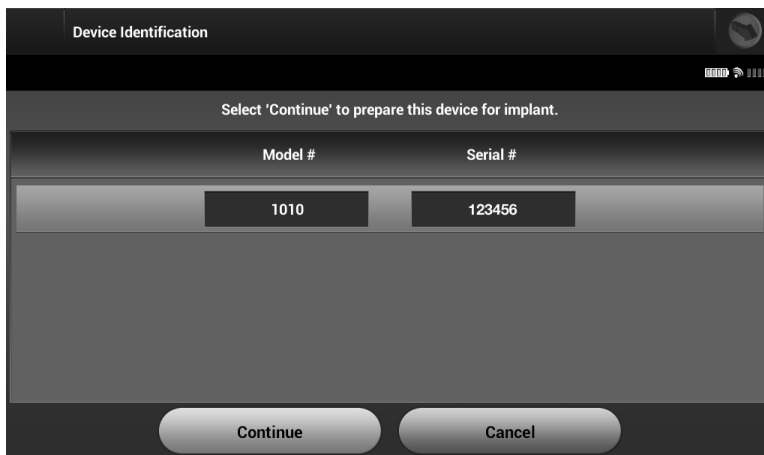

Figure 15: Device Identification screen
2. Once communication is established with the SQ-RX device, the Device Identification screen appears (Figure 15).